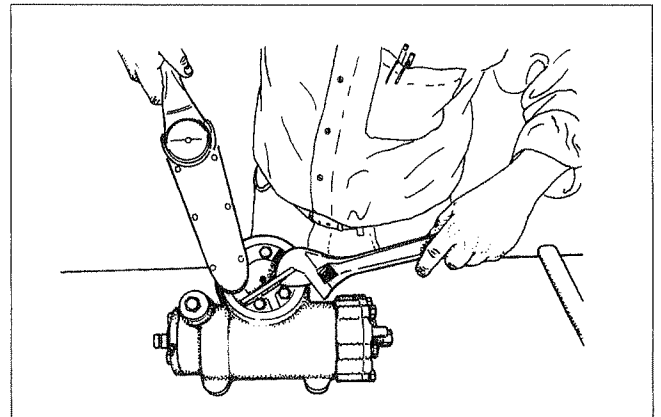

Figure 37
8. Install the three cover retaining clips. Install the six cover retaining bolts and torque to 41Nm (Figure 37).